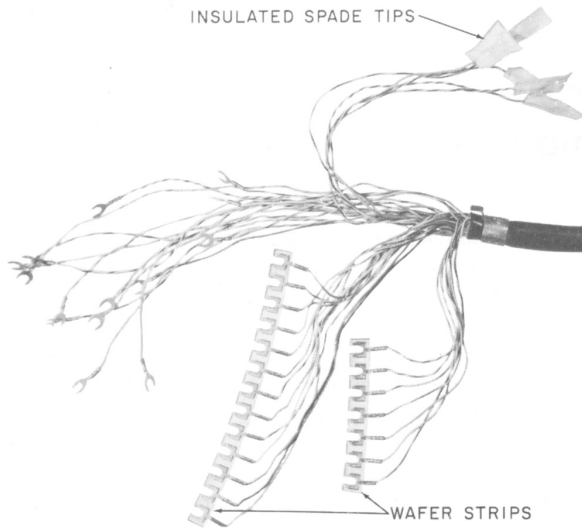

Fig. 1—Slotted Wafer Strip End of Mounting Cord
**2.05** The 565LK-type set uses a mounting cord which features a slotted wafer strip (Fig. 1) to facilitate replacement.